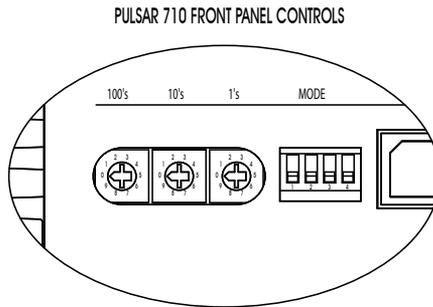

Figure 10: Front panel controls
4.5.1 Controls: There are two primary front panel controls on the Pulsar 710. These are the mode and variable controls. Figure 10 shows